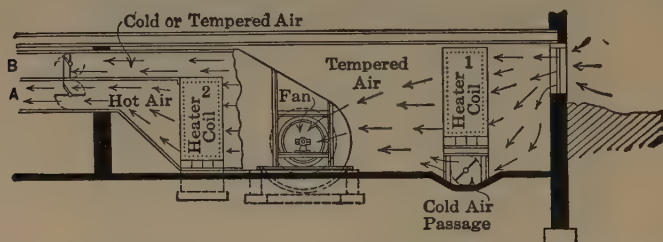

FIG. 161.— In a mechanical ventilating system it is possible to change the condition of the air at will.
means of a "blower" or enclosed fan, as in Fig. 161. This system of securing ventilation is frequently combined with either the hot-water or steam heating system, in which radiators are placed in the rooms. With this combination, only enough air is circulated to secure satisfactory ventilation. This system has an advantage for schools and factories, in that the fan circulation of air may be stopped when the occupants have left the building. The separate heating system makes it possible to keep the building warm without the circulation of air.
**Air-mixing system.** When the heating is done entirely by the circulation of hot air, it is necessary at times to admit air at a lower temperature. This is made possible by having two heating stacks and two air ducts, as shown in Fig. 161. Cold air passes over heating stack 1, and becomes "tempered air." The fan draws air from the tempered-air room and forces a part of it over heating stack 2, which produces hot air in duct *A*. The other portion of the tempered air passes from the fan to duct *B*. The hot and cool (tempered) air may be mixed in any proportion, or either supply may be entirely shut off from the room by means of the mixing damper.